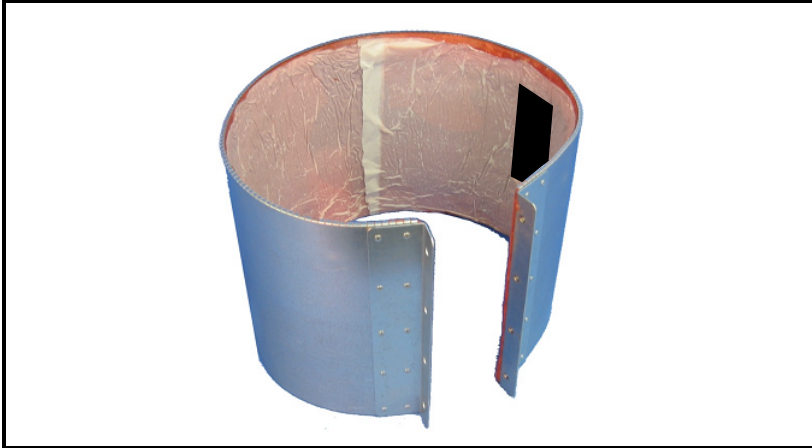

Figure 12: Pipe Damping Jacket (cutouts not shown)
2. Remove the backing paper from the inside of the pipe damping jacket (shown in Figure 12 below).